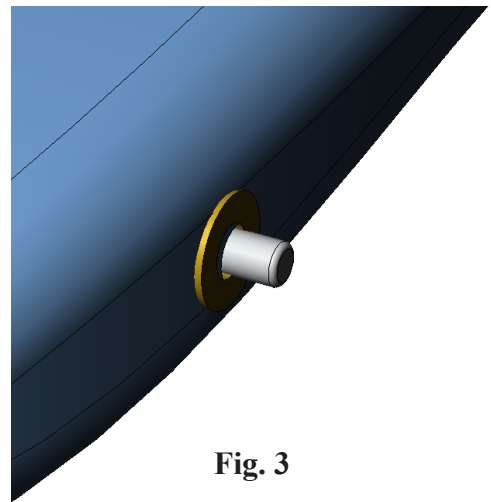

Fig. 3
Step 12. Place **Washer on Front Axle** close to the body, **Fig. 3**. When Washer snaps into place and pointer changes to indicate a Concentric mate , click to release Washer.